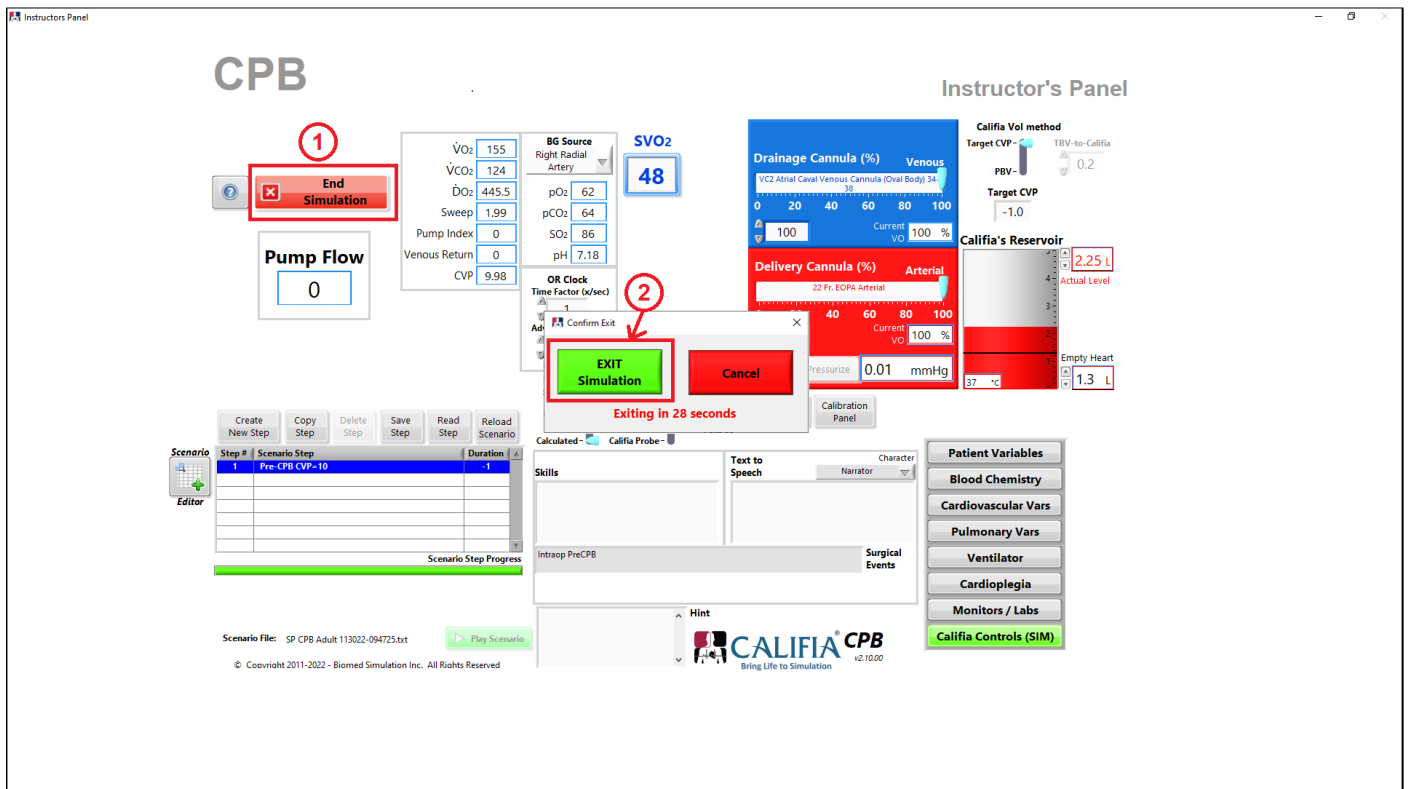

Figure 4.23 End Simulation
Refer to Figure 4.23, press **End Simulation** button, ①; confirm request to return to **Opening Screen**, ②.